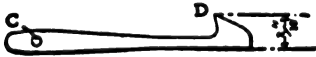

FIG. 2
"I took a piece of $\frac{3}{8}$ -inch shaft about 12 inches long, milled a keyway (A) in it about 3 inches long, and inserted a tool shipped like Fig. 2. B is a $\frac{1}{8}$ -inch pin for a stop to take up thrust, C is a 1-16 pin holding tool in slot, D is the cutting edge.